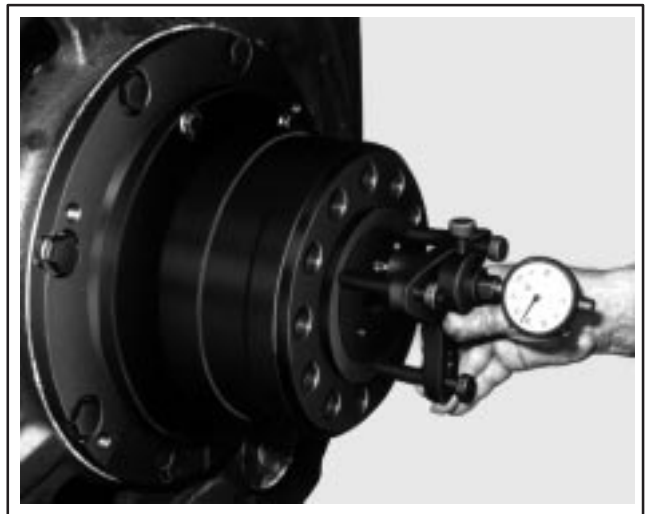

FIG. 8. METHOD OF MEASURING HUB DEPTH. E-5975A
3. Trial mount the cold hub on the shaft. Measure and record the position of the hub with respect to the shaft. Make measurements with a micrometer indicator gage similar to that shown in FIG. 8.
An accurate method must be provided for measuring hub and shaft temperatures quickly before mounting the hub. This can best be done with a hand pyrometer. When using the pyrometer, place points of the gage inside the bore of the hub (See FIG. 8.).